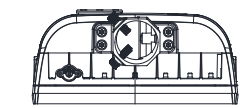

figure 7.5
Step 2: Adjust the handle to the desired Angle by turning it left and right, as shown in the picture.(figure 7.5)